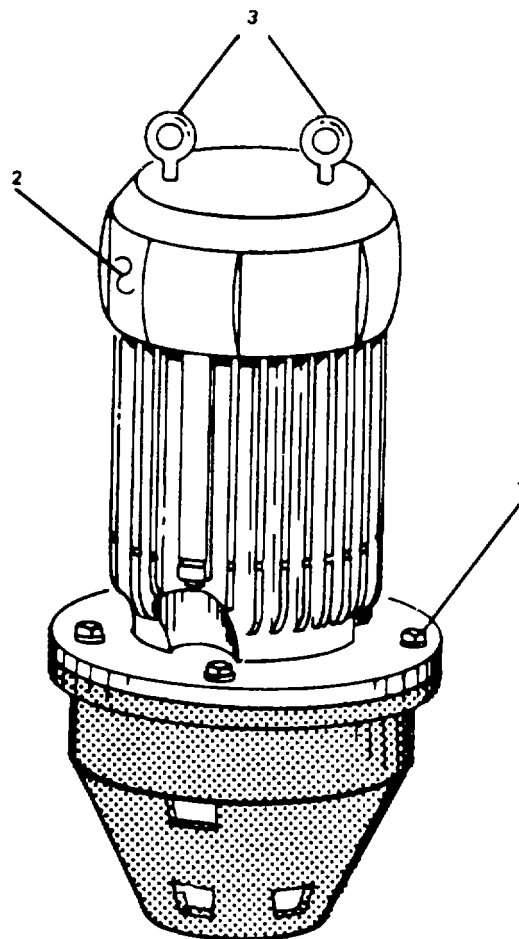

Figure 2-136. Electric Motor.
c. Remove four nuts (1, Figure 2-136) and associated hardware from motor (2).
d. Attach chain hoist to pad eyes (3).
e. Remove motor (2) from pump foundation.
a. Attach chain hoist to pad eyes (3, Figure 2-136).
b. Position motor (2) on pump foundation with mounting holes aligned.
c. Install four nuts (1) and associated hardware. Tighten nuts.
e. Install electrical junction box cover (2) with screws (1). Tighten screws.